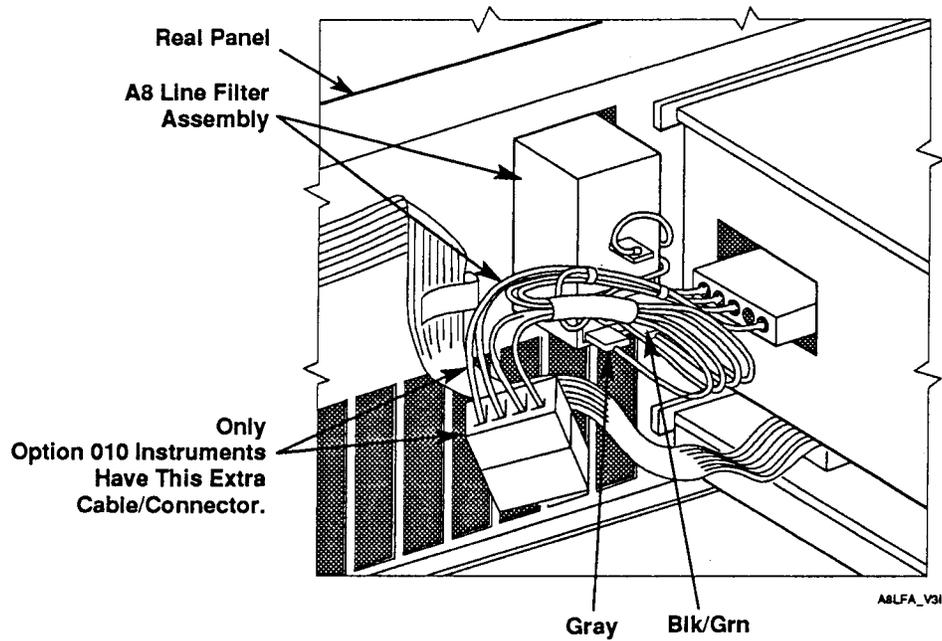

Figure 4-7. A8 Line Filter Assembly Output Location (Standard / Option 010)
2. Connect the positive lead of a voltmeter to the black/green wire connection of A8 Line Filter Assembly at A8 output connector as shown in *Figure 4-7*, and connect the negative lead to the gray wire connection as shown in *Figure 4-7*. *Figures 4-31* and *4-32* are schematic diagrams of the Standard A8 Line Filter Assembly and the Option 010 A8 Line filter Assembly, respectively.